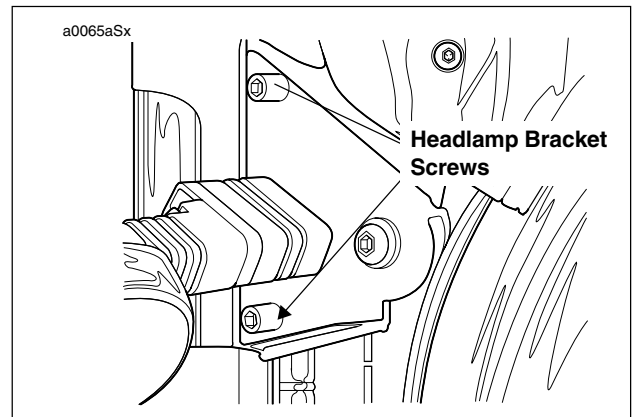

Figure 2-89. Tighten Head lamp Bracket
- d. See Figure 2-89. Tighten head lamp brackets flush against bottom of top triple clamp.